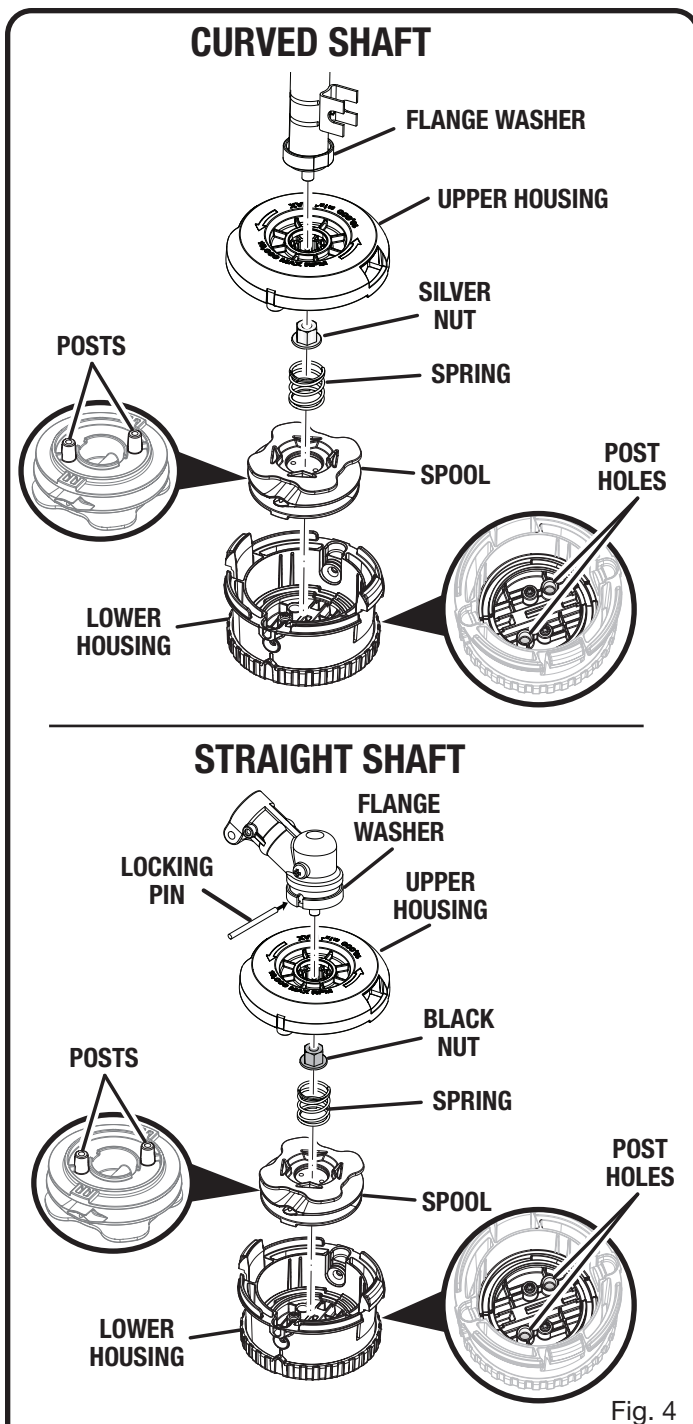

Fig. 4
- Insert nut (M8), with flange facing down, into the hex pocket in the upper housing then twist upper housing onto the attachment (see figure 4).